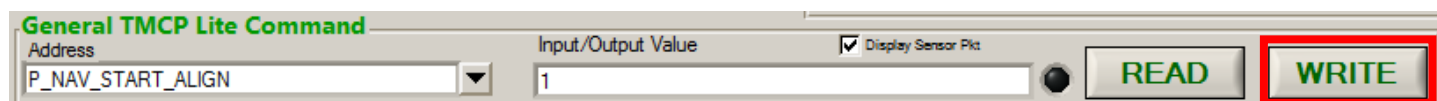

Figure 9 P_NAV_START_ALIGN
- 1) Within NAV RCVR Alignment Software with no signal applied to the NAV antenna input, command the AD9874 to tune its A/D resonators by setting typing P_NAV_START_ALIGN on the Address box of General TMCP Lite Command and typing "1" in the Input/output Value box and clicking "WRITE" (Figure 9).